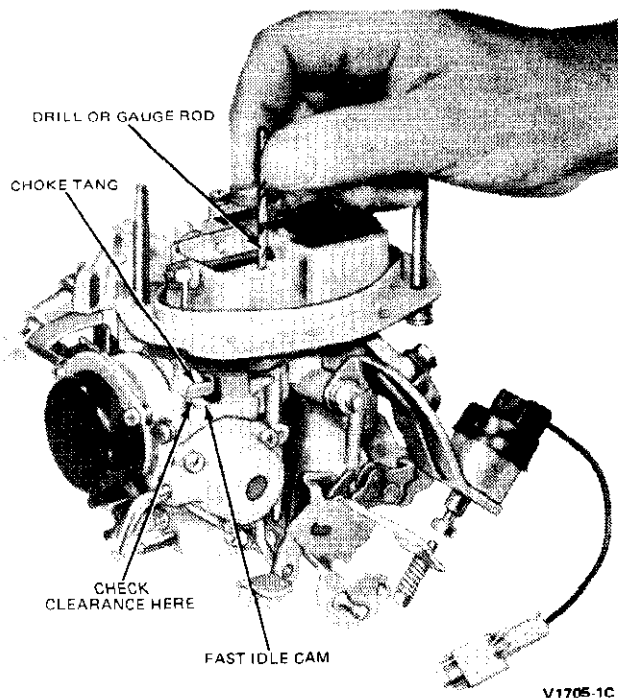

FIG. 8 Fast Idle Cam Clearance
2. With the fast idle screw held on the bottom step of the fast idle cam, against the top step, measure the clearance between the tang of the choke lever and the arm on the fast idle cam (Fig. 8). The tang and arm should be in light contact. Bend choke lever tang up or down as required.